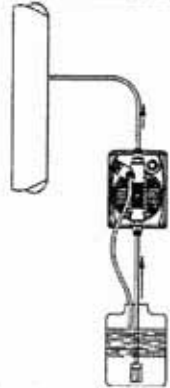
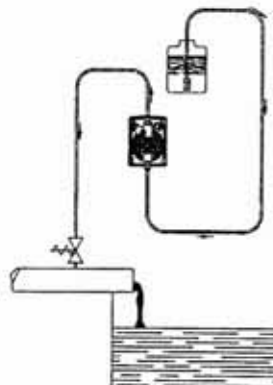

Fig. 5
Fig. 6
- c. - Install the pump in any way as shown in Fig. 5. If installed above the chemical tank, it is important that the pump height should not exceed the rated suction height, over the level of the chemical. When the process plant in which the pump is installed is operating at atmospheric pressure (no back pressure) and the chemical tank is situated above the plant (Fig. 6), the condition of the injection valve should be checked at regular intervals, because excessive wear and tear could cause additive to drip into the plant even when the pump is shut down. If the problem persists, install a properly calibrated counter-pressure valve (C) between injection point and the valve. In the case of liquids that generate aggressive vapours, do not install the pump above the storage tank unless the latter is hermetically sealed.